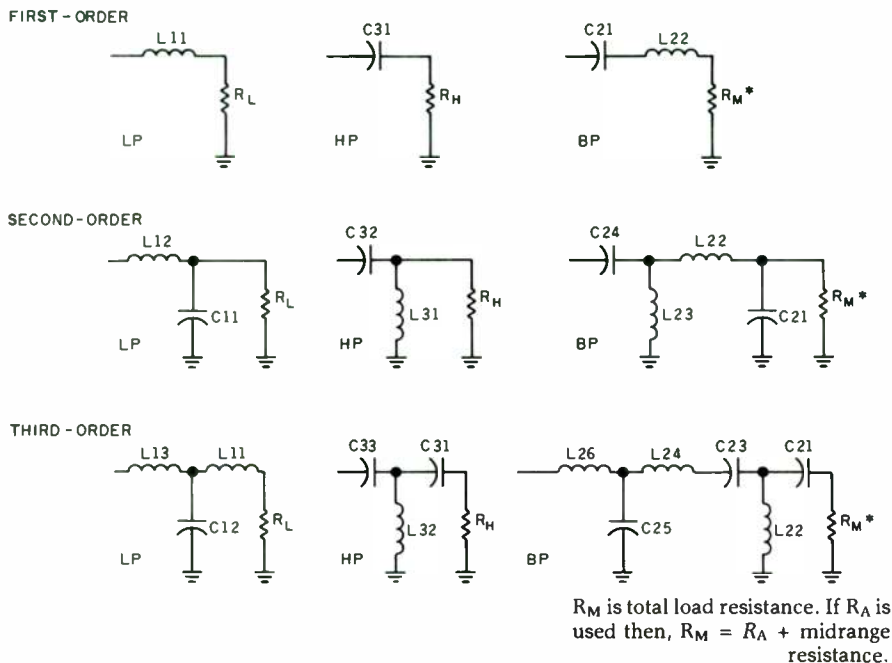
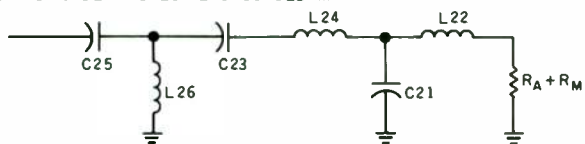

FIGURE 2: Schematics for three-way crossovers (cascaded MR topology).
FIGURE 3: Special midrange topologies.
THREE-WAY CO RESULTS. Figure 2 shows schematics for the first-order through third-order COs, using cascaded midrange (MR) topology. Component numbering and schematic layouts are in agreement with Bullock (SB 2/85 p. 26). Figure 3 shows schematics for revised MR topologies. See reference 1 for design of the transposed MR topology, and reference 2 for the special cascaded MR topology. For consistency I have maintained component labeling in agreement with Fig. 2.